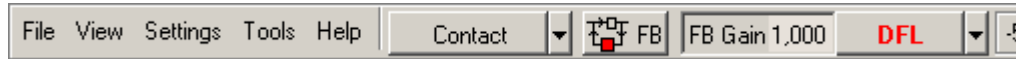

Fig. 3-1
1. Select **Contact** in the controller configuration list on the main parameters panel (Fig. 3-1).